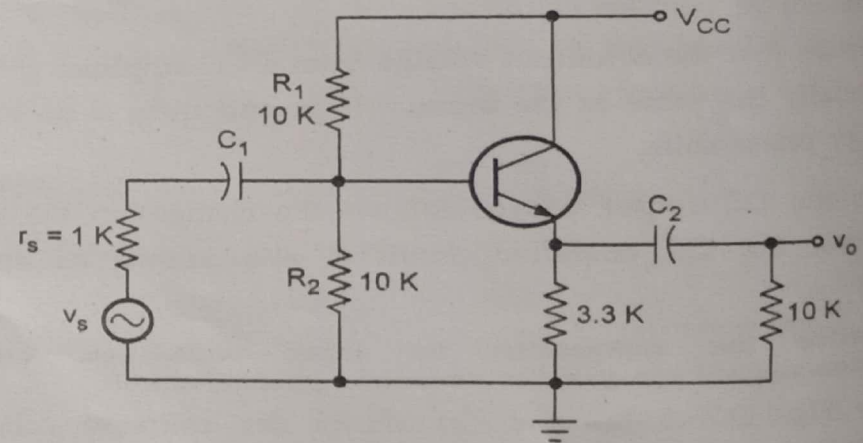

Fig. Q.26.1
Q.26 For the circuit shown in Fig. Q.26.1, calculate Z_i and A_v with R_L not connected and with R_L connected. Assume $h_{ie} = 2.1 \text{ K}$ and $h_{fe} = 100$.